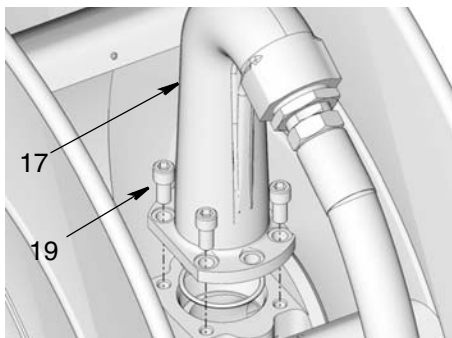

FIG. 19
2. Remove bolts (19) and outlet (17) from reel (FIG. 19).